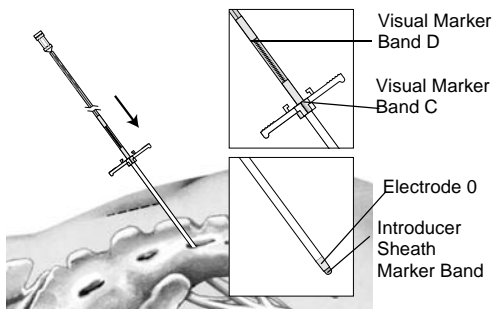

Figure 8. Advance lead through introducer sheath.
6. Insert the lead into the introducer sheath and advance the lead until visual marker band C on the lead lines up with the top of the introducer sheath handle. Using fluoroscopy, confirm that electrode 0 of the lead is proximal to the radiopaque marker band at the distal tip of the sheath (Figure 8).